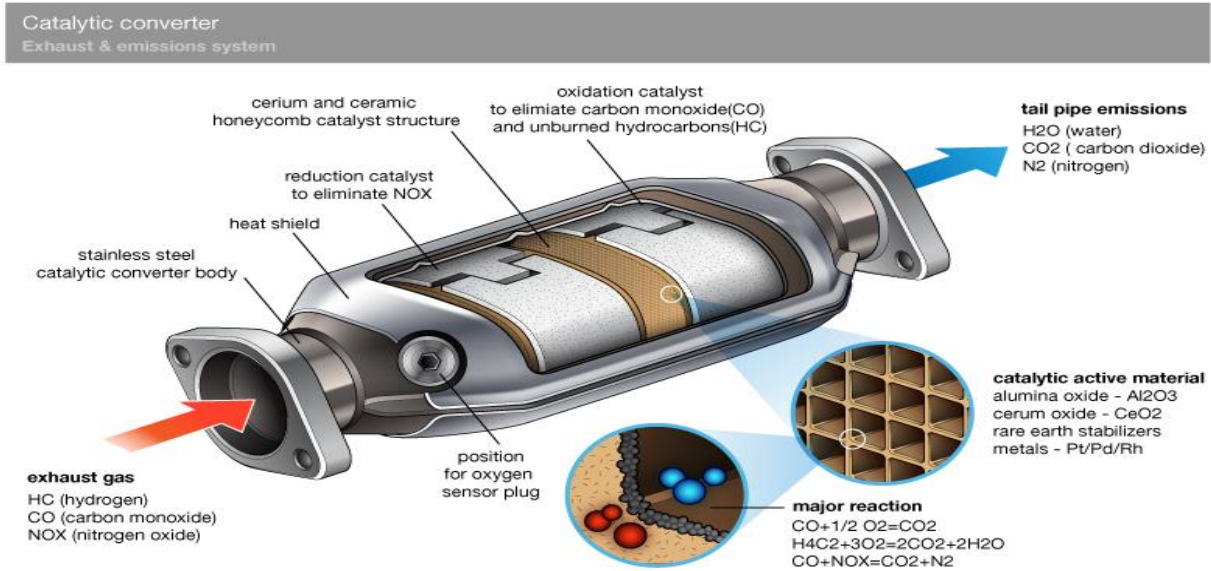

Figure 4 – Catalytic Converter, KwikFit.com (2019)
A catalytic converter is shown in the image below, but a more detailed image is shown by Figure 4 in the bibliography.
- Figure 4 – Catalytic Converter internal components diagram